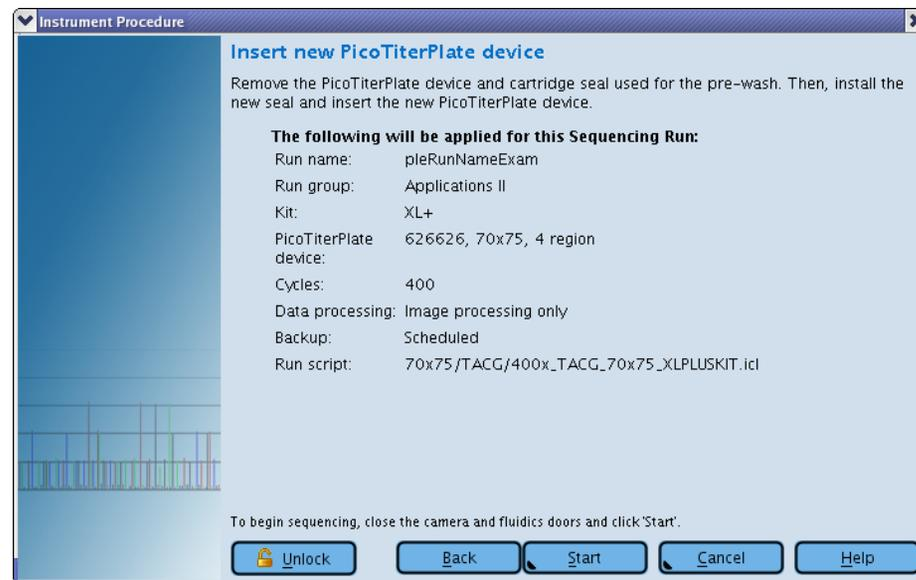

Figure 29: The Run Wizard's tenth, and last window: Insert new PicoTiterPlate device
- This opens the tenth and last window: Insert new PicoPiterPlate device (Figure 29).
13. Click the Start button in the Run Wizard's Insert new PicoTiterPlate device window (Figure 29) to start the sequencing Run.